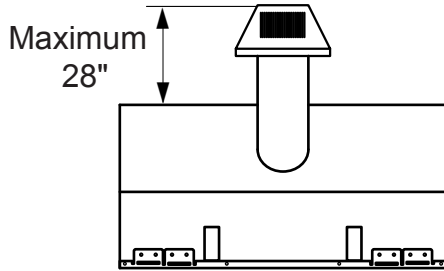

Figure 11 - Rear Vent Application using 2 foot vertical rise. Maximum Horizontal Distance
- The maximum horizontal distance between the rear of the appliance and the outside of termination is 28" (711 mm). See Figure 11.
1. Locate and cut the vent opening in the wall. For combustible walls first frame in opening. See Figure 11.
3. Attach vent pipe assembly to the fireplace. Set fireplace in front of its permanent location to insure minimum clearances. Mark the wall for a 9 "H x 9 "W (229 mm x 229 mm) rectangle hole (for noncombustible material such as masonry block or concrete, a 7½" [190mm] diameter hole is acceptable). See Figure 11. The center of the hole should line up with the center line of the horizontal rigid vent pipe end. Be sure to allow for minimum rise.